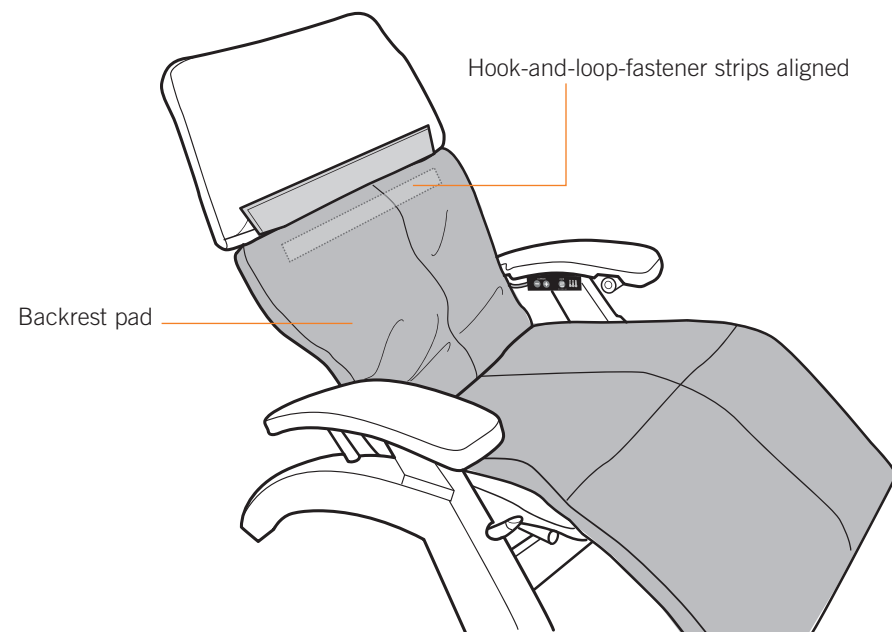

Fig.31
- Pull up on the backrest pad until the hook-and-loop fastener strip on the back of the pad aligns with the hook-and-loop fastener strip on the chair canvas, then press the two strips firmly together (Fig.31).